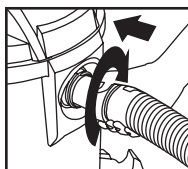

FIGURE 26
34. Reinsert hose into inlet and tighten the locking-nut. **FIGURE 26.**